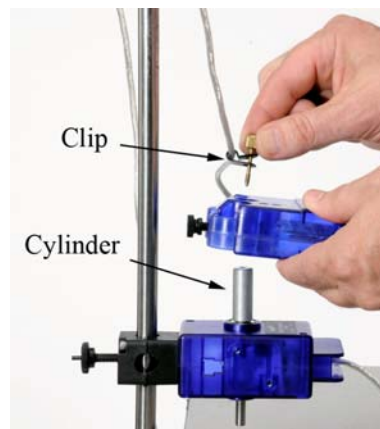

Figure 3: Connecting Force Sensor
2. The Force Sensor fastens to the Rotary Motion Sensor as shown in Figure 3. Slide the aluminum cylinder (from the Centripetal Force Pendulum) onto the shaft, then drop the Force Sensor onto the cylinder.
3. The brass screw and clip (from the Centripetal Force Pendulum) hold the Force Sensor cord at the rotation point, decreasing the unwanted torque of the cord. Slide the clip onto the cord (see Fig. 3) and use the brass screw to fasten it to the shaft of the Rotary Motion Sensor.